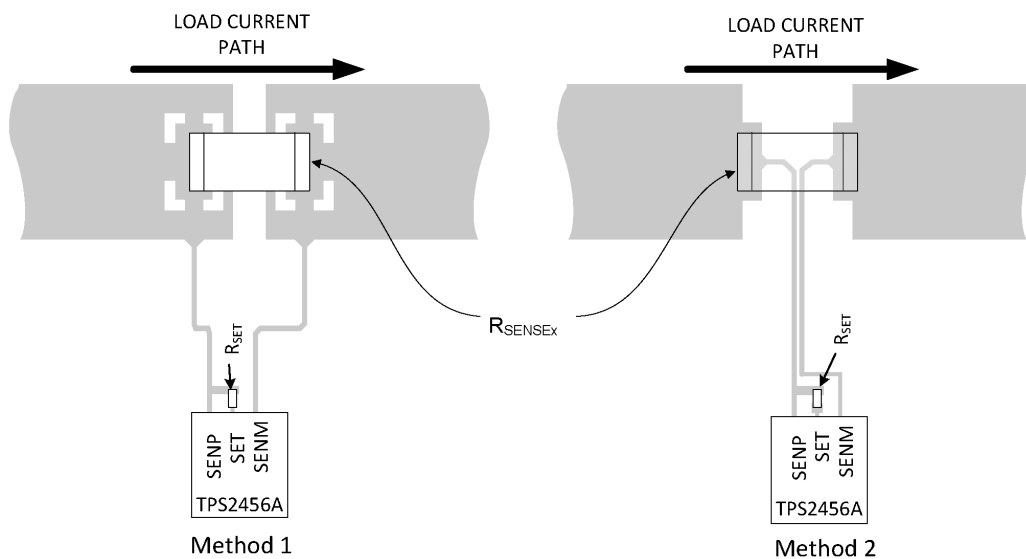

Figure 25. Recommended  $R_{SENSE}$  Layout
2. SENMx and SENPx runs must be short and run side-by-side to maximize common mode rejection. Kelvin connections should be used at the points of contact with  $R_{SENSEx}$ . (See Figure 25)